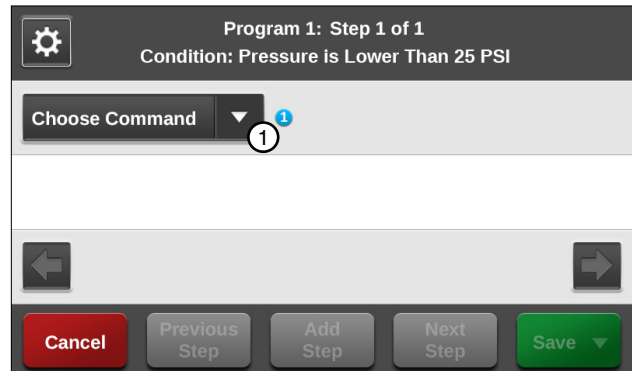

Figure 118-1 1. Choose Command Drop-Down
4. Enter the command to be executed when the water pressure drops below 25 psi. Refer to Figures 118-1 and 118-2.
5. Finish the program by selecting one of the following. Refer to Figure 118-1.